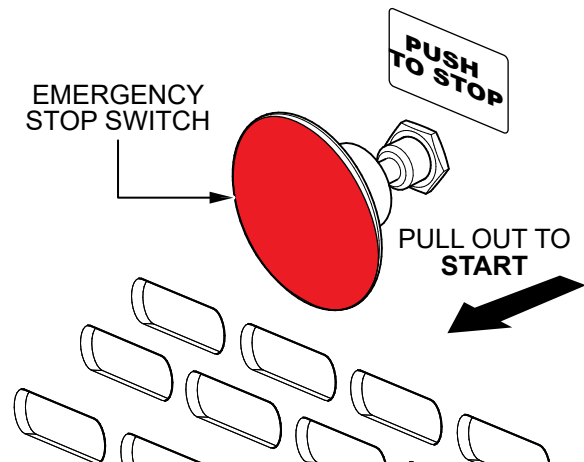

Figure 22. Emergency Stop Switch (START Position)
4. Locate the emergency stop switch (Figure 22) on the engine cover. Pull this button outward to allow engine starting.